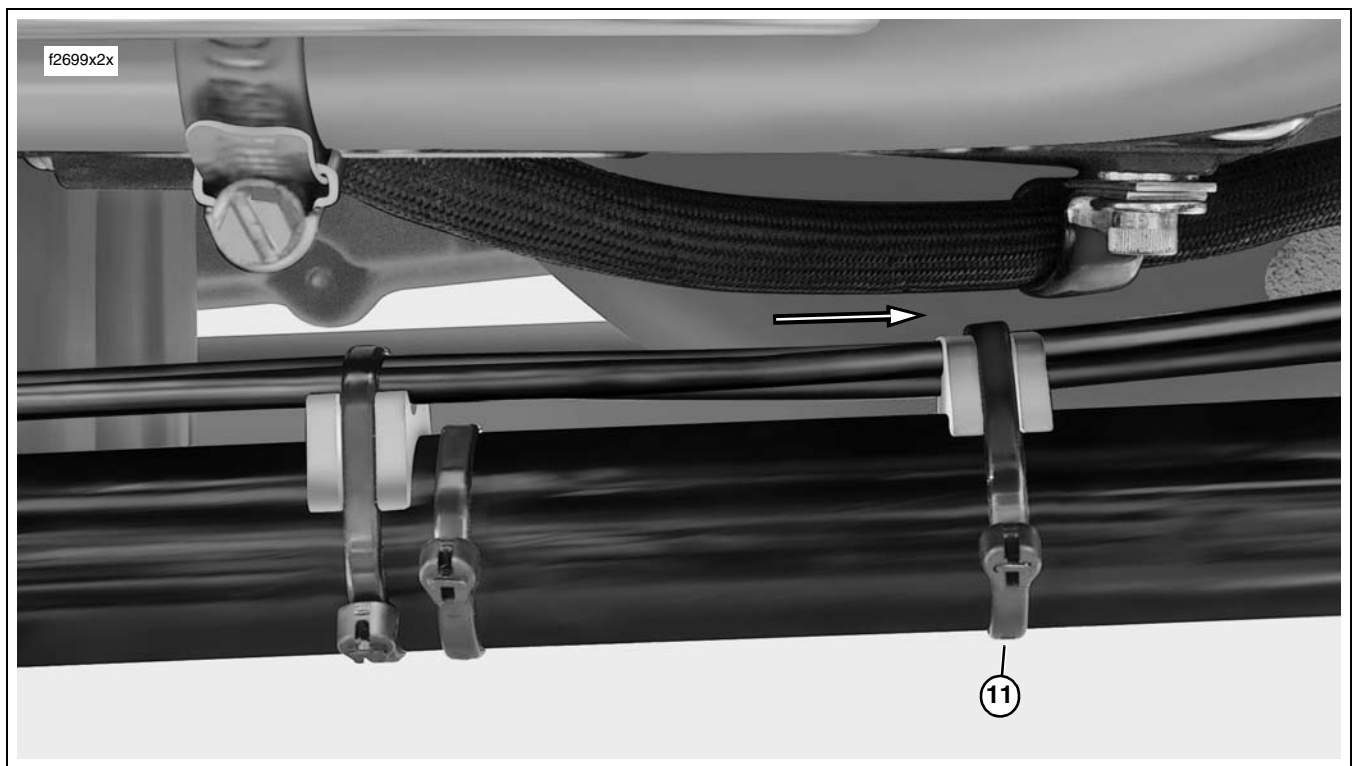

Figure 9. Install Third (Unanchored) Short Frame Guide and Verify Clutch Cable Clearance
12. See item 11 of Figure 9. Set third short frame guide on top of lower frame tube just rear of P-clip. Capturing three brake lines and lower frame tube, install **new** cable strap in slot of short frame guide, but do not capture main harness conduit.
16. See item 11 of Figure 9. Set third short frame guide on top of lower frame tube just rear of P-clip. Capturing three brake lines and lower frame tube, install **new** cable strap in slot of short frame guide, but do not capture main harness conduit.